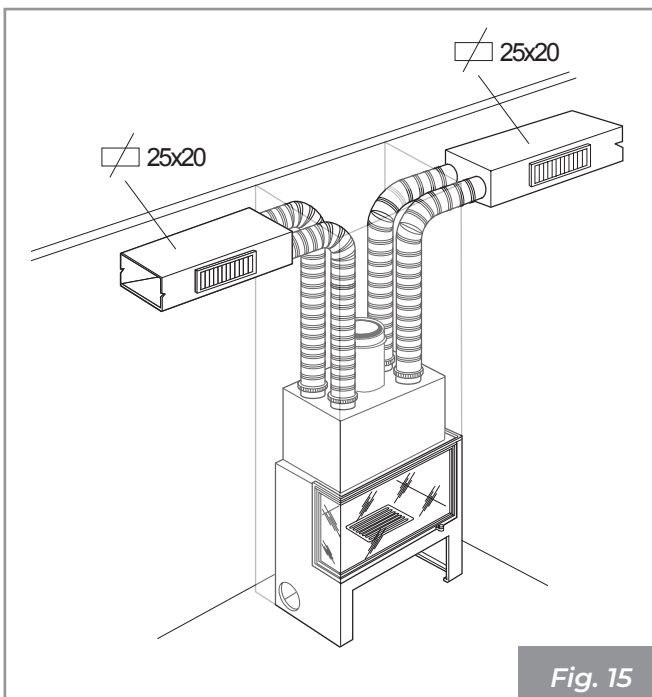

Fig. 15
- Smooth metal pipe - length up to 14 m on double duct **(Fig. 15)**.